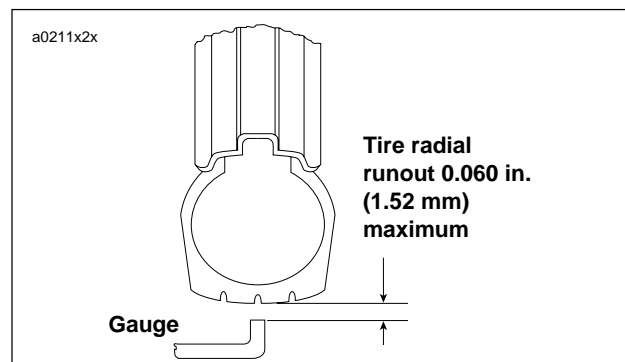

Figure 2-24. Checking Tire Radial Runout
1. See Figure 2-24. Turn wheel on axle and measure tread radial runout.